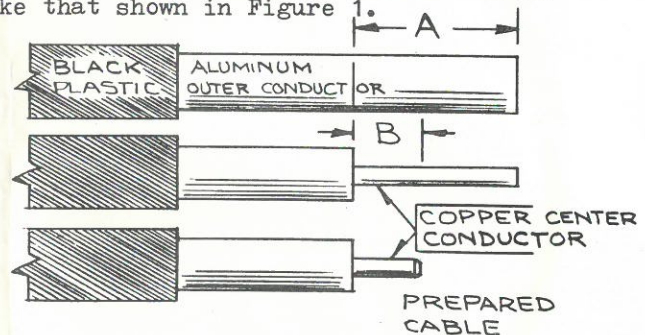

FIGURE 1
1. If you are using a plastic jacketed cable, remove a length of plastic jacketing equal to the total connector length plus 4 inches. Do not score the aluminum outer conductor excessively during this operation. Use Table 1 to determine the score distance (A) for the cable size you are working with. Using a tubing cutter score the aluminum outer conductor deeply at the recommended distance from the cable end. Do not cut completely through the aluminum. Using emery cloth or a smooth cut file, remove scratches or marks for the first half inch between the score mark and the main cable length. At the same time also remove the burrs raised by the tubing cutter.
2. Remove the section of aluminum outer conductor between the score mark and the cable end. This can usually be done by flexing the cable until the aluminum separates at the score line. Using the finished edge of the aluminum outer conductor as a guide, cut the dielectric core through to the copper center conductor. CAUTION.... (In the case of Styroflex (R) cables, use a hot knife to cut the dielectric. This serves to fuse the tapes together and prevents unravelling of the dielectric core.) Remove the cutoff dielectric. The finished dielectric should be as square and clean as possible. Remove any dielectric material that adheres to the extended center conductor.
3. Consult Table 1 to determine the center conductor cutoff length (B) for your cable size. Cut the copper center conductor to the recommended length. In the case of tubular center conductors, a tubing cutter may be used instead of a saw. Deburr this cut and file a lead or round off the center conductor end. The prepared cable should now look like that shown in Figure 1.